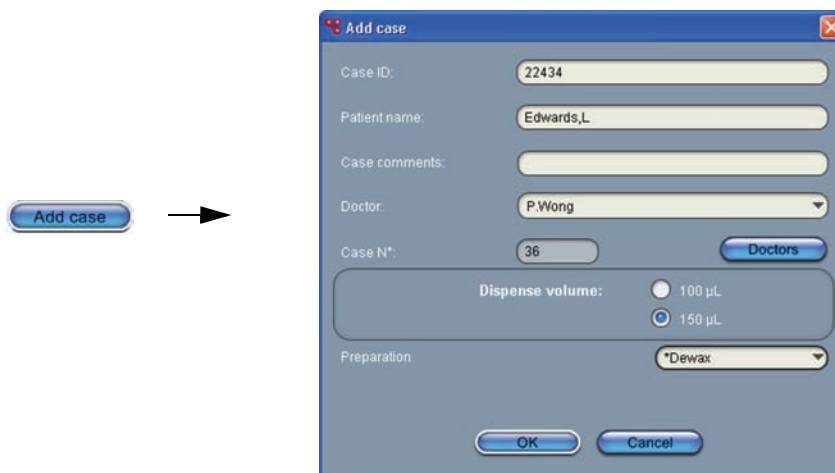

Figure 96: The Add case dialog
1. Click **Add case** on the Slide setup screen to display the Add case dialog (see Figure 96).
5. Select the preparation option from the Preparation drop-down list (see Figure 96) to include by default for slides created for this case.